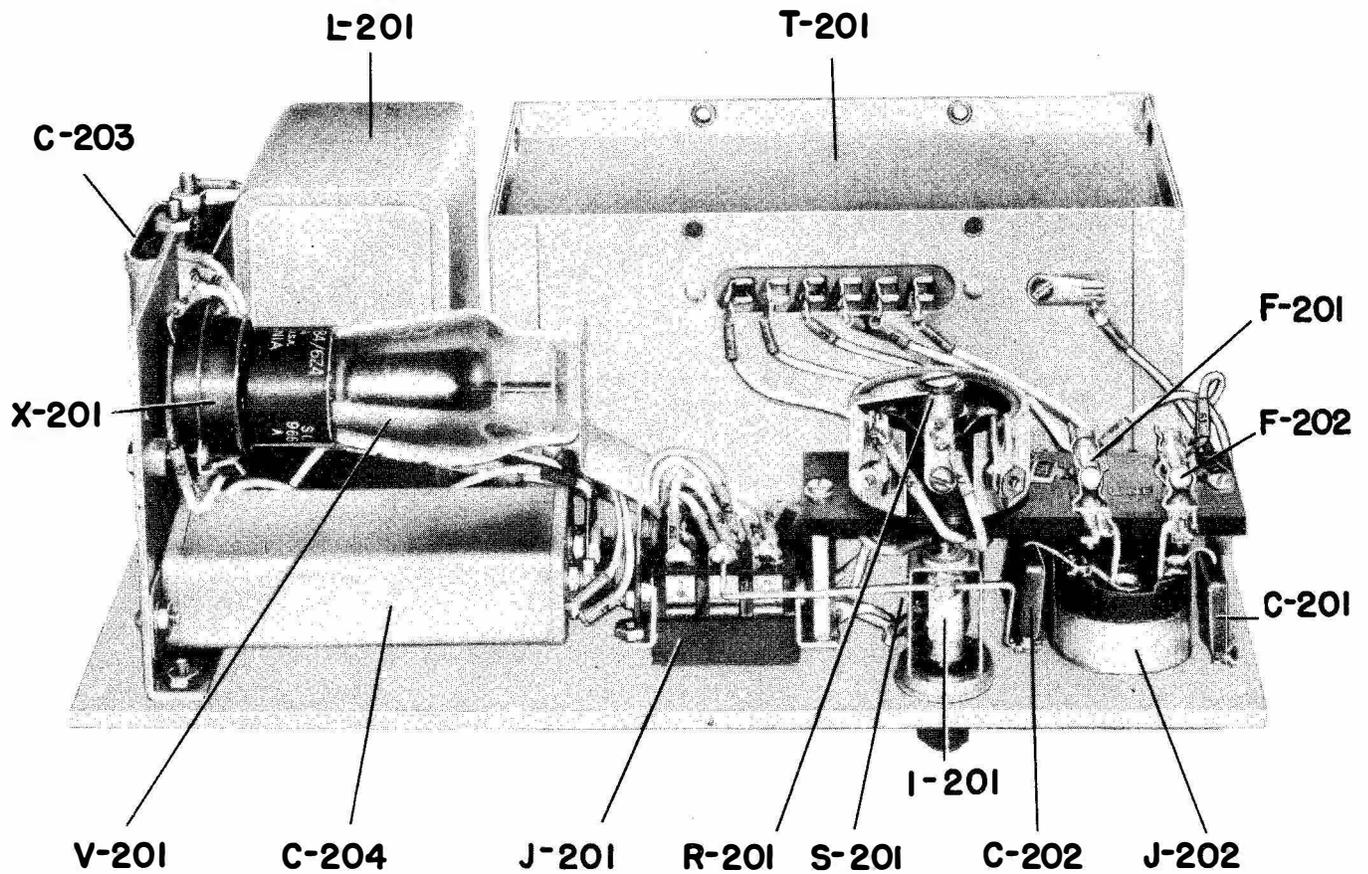

Figure 7-6—Interior View of the Rectifier Power Unit (Viewed from Underneath)
- (2) Figures 7-6 to 7-8 inclusive show various *interior* view of the Rectifier Power Unit.